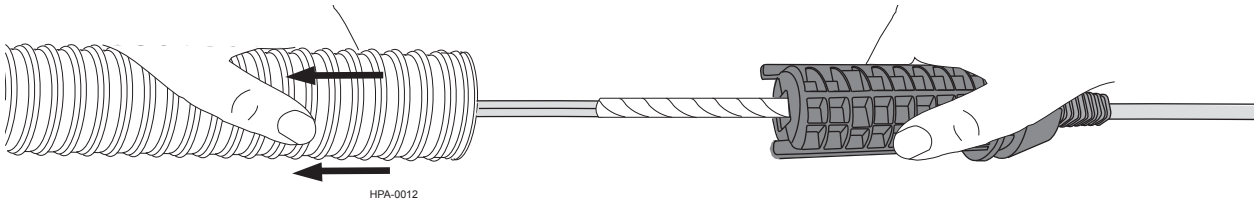

Figure 13
Step 5: Slowly slide the tubing away from the coupler and its connector legs (Figure 13).